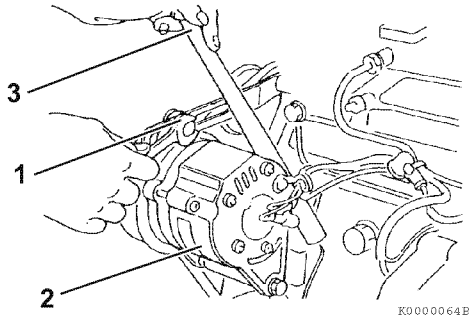

Figure 5-5
- If necessary, adjust the V-belt tension. Loosen the adjusting bolt (**Figure 5-5, (1)**) and the other related bolts and/or nuts, then move the alternator (**Figure 5-5, (2)**) with a pry bar (**Figure 5-5, (3)**) to tighten the V-belt to the desired tension. Then tighten the adjusting bolts and/or nuts.